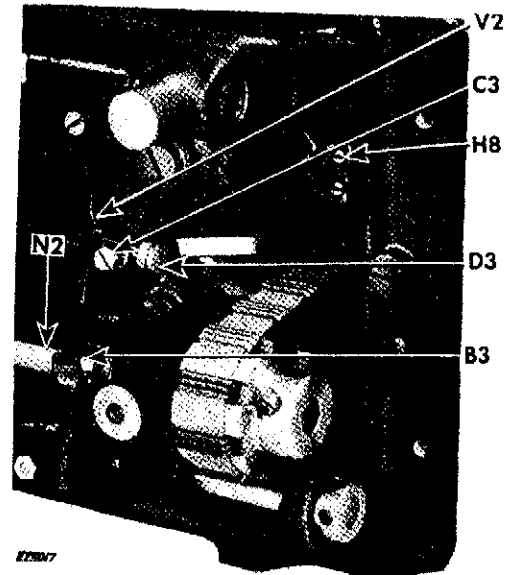

Fig. 44. Adjusting Stitch Regulator
The feed eccentric **B3**, Fig. 44 is not adjustable for length of stitch, as it is positively set at the factory by location on a flat on the rotating hook driving shaft **N2**. See Fig. 53, page 39 for location of flats on shaft **N2**.
9. Binding in feed rock shaft connecting link **V2**, Fig. 44.
2. Loosen set screw **C3**, Fig. 44.
3. Loosen binding set screw **H8**, Fig. 44 which fastens to stitch regulating handle.
5. Loosen screw **C3**, Fig. 44 and remove eccentric stud **D3**.
3. Replace eccentric stud **D3** and securely tighten set screw **C3, Fig. 44**.
4. Insert stitch regulating handle into its recess and securely tighten screw **H8, Fig. 44** making sure that slotted opening **O8** of friction spring aligns with concave surface of regulator handle as shown in **Fig. 47**.